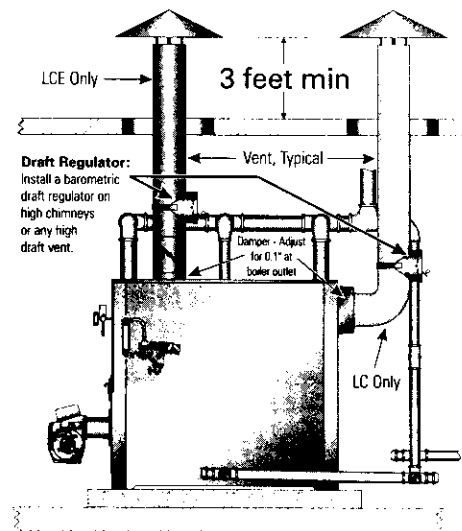

Figure 3: Vent Termination, Typical
2. The vent system and installation must be in accordance with the current edition of the American National Standard ANSI/NFPA 211, "Chimneys, Fireplaces, Vents, and Solid Fuel Burning Appliances", or applicable provisions of the local building codes. The venting requirements for the LCE are the same as for the LC. Figure 3 shows the top flue outlet required on LCE boilers.
7. The vent diameter and minimum height for stub vents are listed in the Ratings and Dimensions Section of this manual. Always extend vent terminations at least 3 feet above the roof line. See Figure 3.